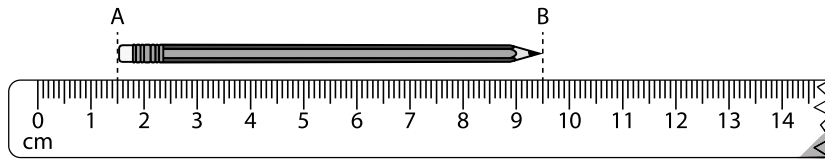

Figure 1.1
- 2 Place the pencil against the scale, with the flat end (A) on the 1.5 cm mark, as shown in Figure 1.1.